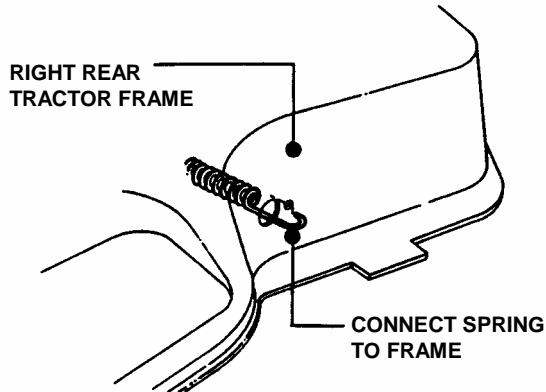

FIGURE 4.31
5. Attach tension idler spring to tractor frame. See Figure 4.31.